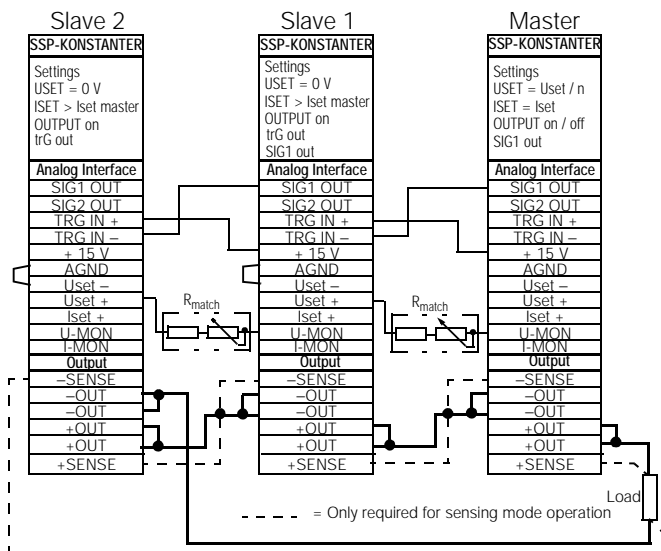

Figure 5.9.2 Wiring for Series Master-Slave Connection
- Connect master and slave devices as shown in **figure 5.9.2**.